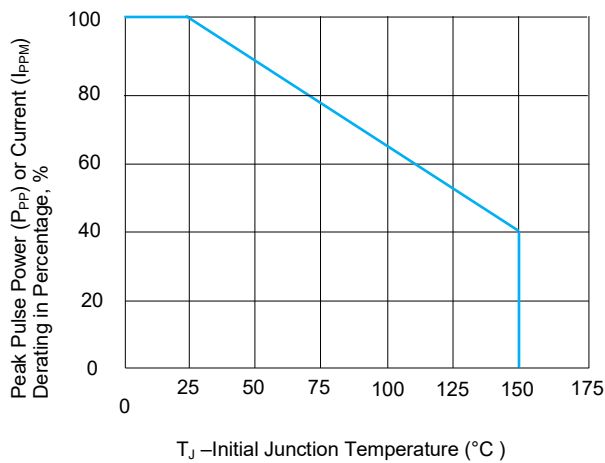
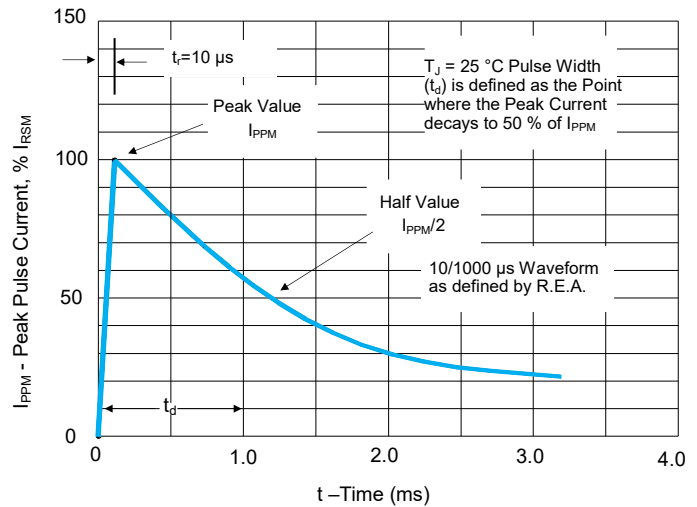

FIGURE 3 Peak Pulse Power Derating Curve
FIGURE 4 Pulse Waveform
1. Non-repetitive current pulse, per Fig. 4 and derated above $T_J(\text{initial})=25\text{ }^{\circ}\text{C}$ per Fig. 3.